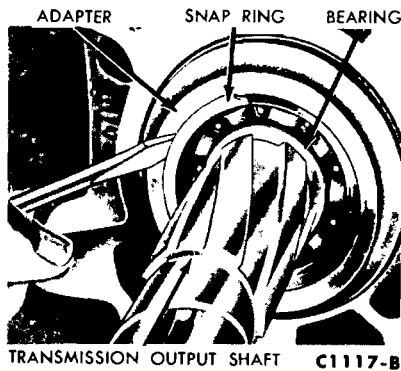

FIG. 17—Removing Output Shaft Bearing Snap Ring
1. Remove the snap ring which retains the output shaft in the adapter (Fig. 17), and tap the bearing out of the adapter. Remove the baffle from the adapter.
3. Position the baffle in the adapter (Fig. 17). Tap the bearing and shaft into place in the adapter.